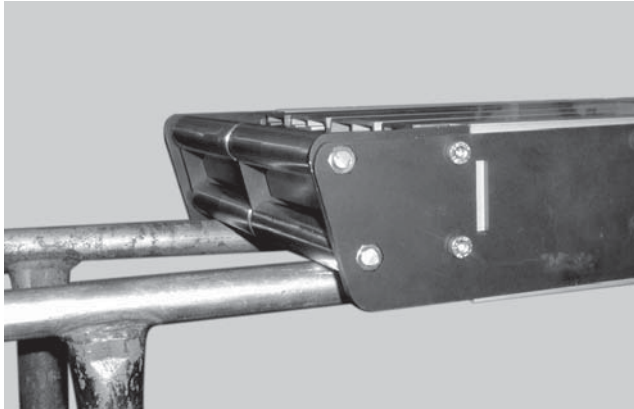

**Figure 54**
8. Slide the drive pulley (Figure 54, item BU) out of the headplate on the opposite side.